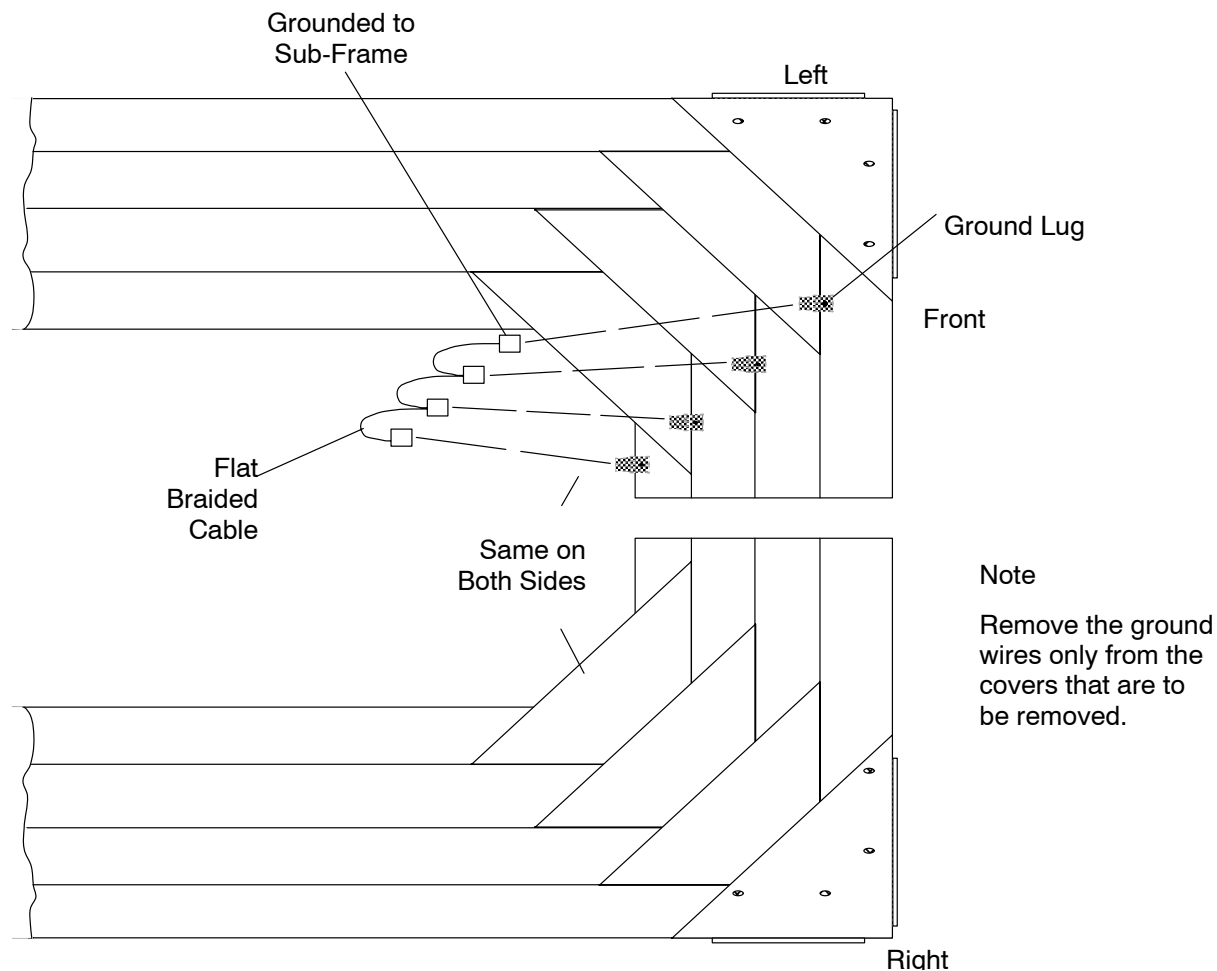

FIGURE 10 TELESCOPING BASE COVERS – GROUND CONNECTIONS
7. Disconnect the two Ground Wires connected to the inside Panel surfaces. Refer to Figure 10. Tag the Panels left and right. Carefully separate the Panels and slide them out to the sides. Store the Covers in a secure area until reinstallation is required.